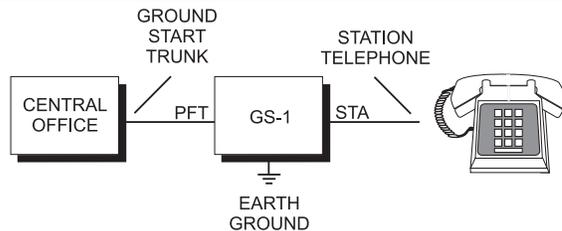

Figure 4 Installation with Station Telephones.
3.13 USING STATION TELEPHONES WITH CO GROUND START TRUNKS Refer to Figure 4 when reading this section. The GS-1 can be used as a dedicated loop start to ground start converter, allowing single line telephones to be used on CO ground start trunks. The GS-1's PFT connections are connected with the CO ground start trunks, and the GS-1's STA connections are connected with the station telephones.